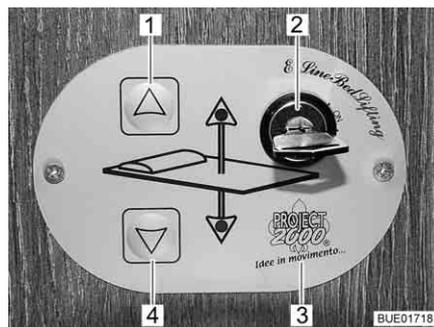

Fig. 107 Control unit
Control unit The pull-down bed is raised or lowered using the buttons (Fig. 107,1 and 4) on the control unit (Fig. 107,3). The control unit is protected against unauthorized use with the key switch (Fig. 107,2).
- Turn key in the key switch (Fig. 107,2). The control unit (Fig. 107,3) is activated.
- Press the arrow key (Fig. 107,4) and keep it pressed until the pull-down bed has moved down into the desired position.
- Press the arrow key (Fig. 107,1) and keep it pressed until the pull-down bed has moved down into the final upper position.